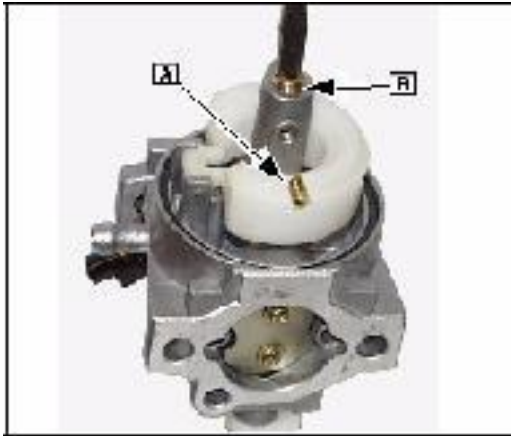

Fig. 29
CAUTION: Main jet ([A] Fig. 29) must be removed before emulsion tube (B) is removed or damage to threads of the emulsion tube will result.
Remove carburetor emulsion tube ([B] Fig. 29) with screwdriver #19061.